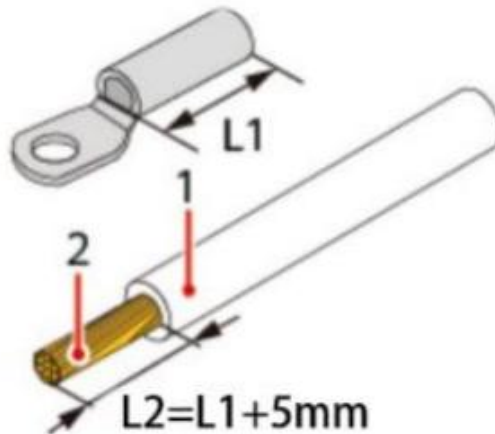

Figure 7- 5 Stripped insulation layer length diagram
2. Secure the copper lug onto the DC busbar, following the sequence shown in FIGURE 7- 4.